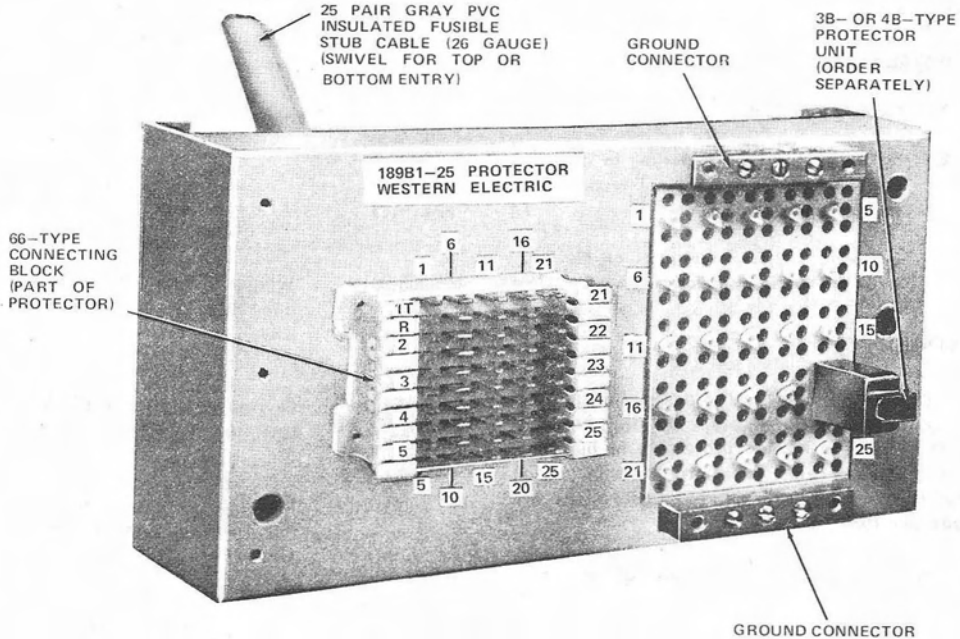

Fig. 1 — 189B1-25 Protector
2.01 The 189-type modular protectors (Fig. 1 through 8) are combination protector and ter-